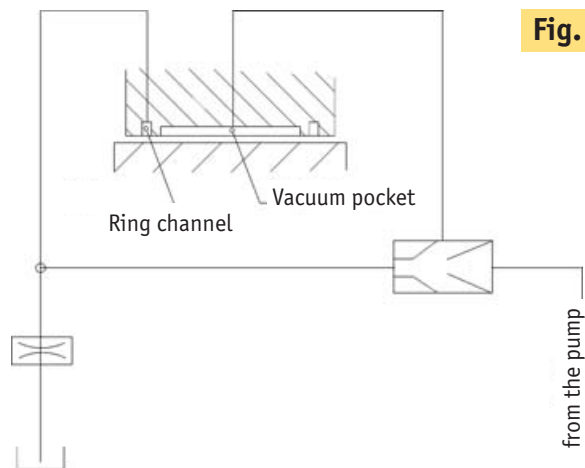
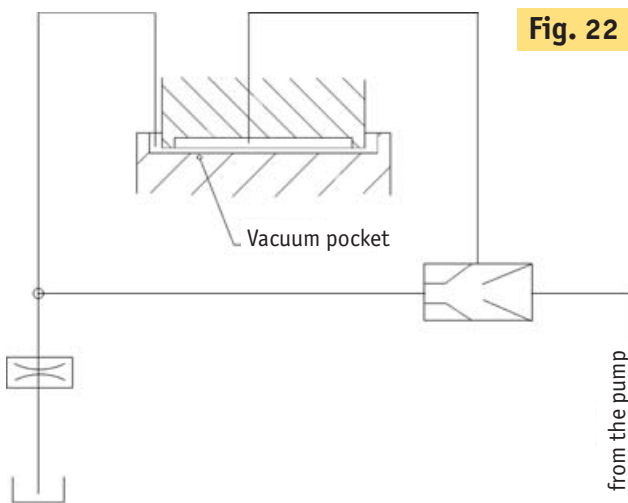

Fig. 21
Fig. 22
7. Suction cup version (see Fig. 21 and Fig. 22)
It must therefore be ensured that only oil but no air is drawn through the columns of the vacuum pockets. As shown in Fig. 21, this can be achieved using a ring channel around the vacuum pockets which is filled with oil at low positive pressure (approx. 0.01 - 0.1 bar).
An alternative solution according to Fig. 22 is also possible. Here the oil is restrained by partition walls around the mating track. Transversal grooves, which the oil is dragged through during the carriage movement, must be provided in front of and behind each vacuum pocket for this solution. **Small quantities of air separated from the oil do not affect the operation of the jet pump.** ■